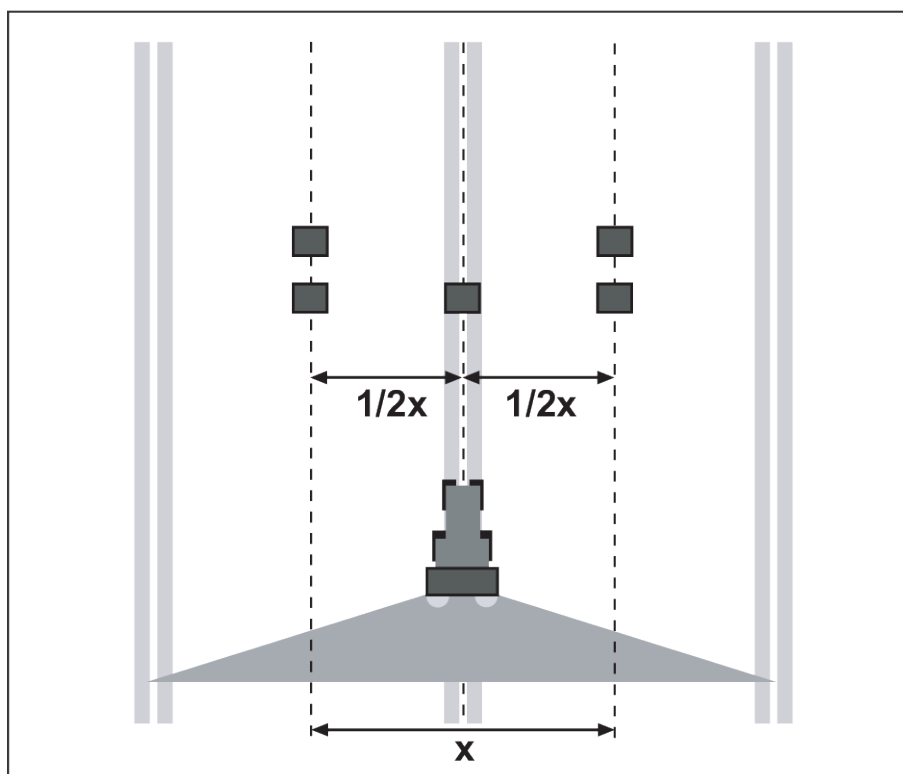

Fig. 51: Layout for one passage
- ▶ Place two collecting vessels one in front of another at a distance of **1 m** in the overlap zones (between the tracks) and one collecting vessel in the track (according to Fig. 51)